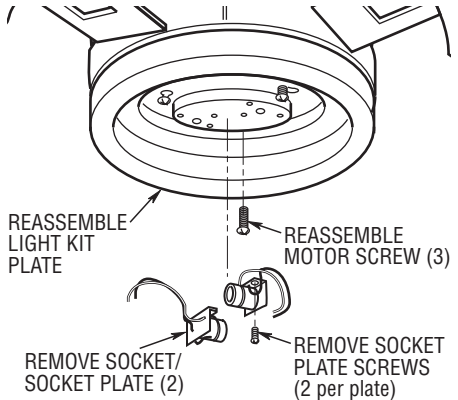

Figure 23
- 3. Cut light socket wires using wire cutters. Unscrew the screws that is securing the socket plates to the light kit plate. Pull socket wiring through light kit plate holes to completely disengage the light sockets from light kit plate (Figure 23).